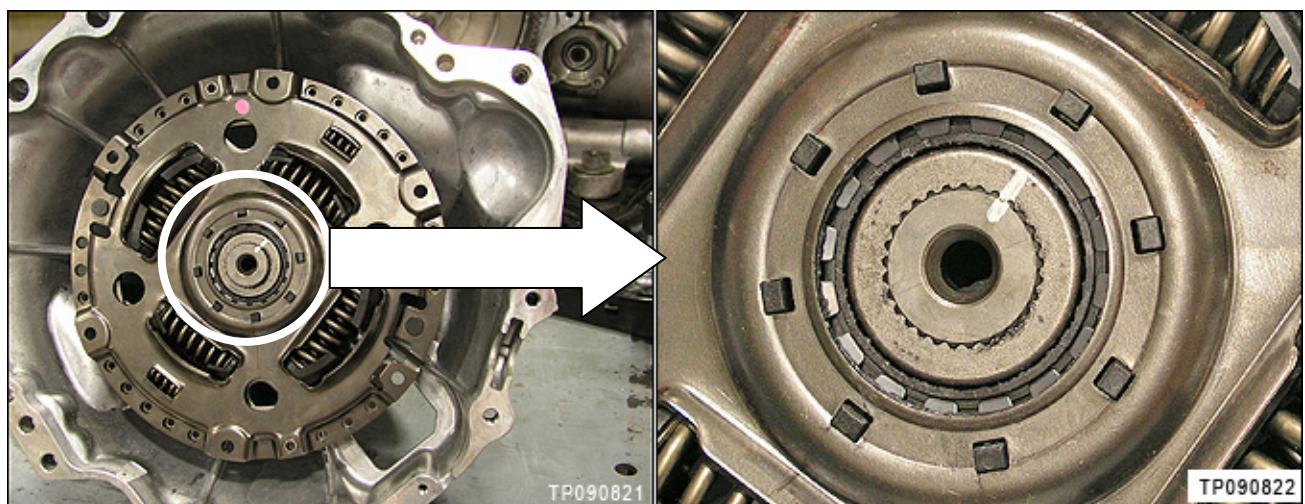

Figure 9
13. On the new flywheel housing/vibration damper – use paint to mark the damper and center shaft as shown in Figure 9.